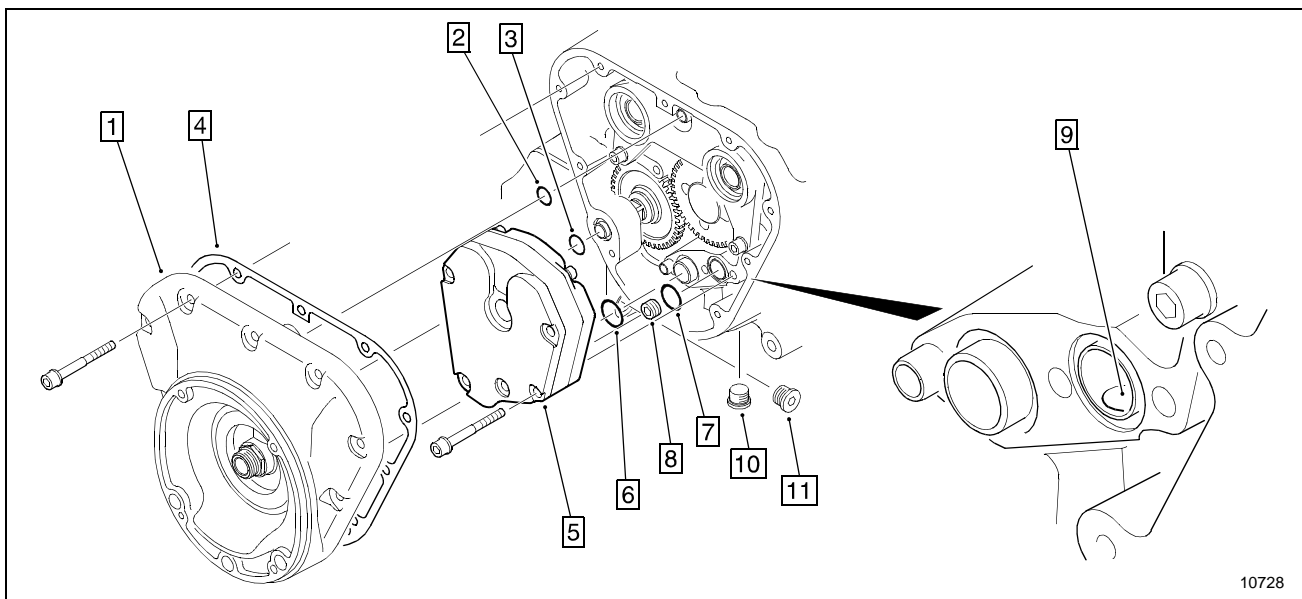

Figure 2
2. Before installing a new oil filter, carefully remove the timing cover (see Figure 2). Remove
3. Remove the scavenge pump (see Figure 2). Remove and discard the input and output port O-rings.
4. Install the pipe plug provided with the kit in the scavenge pump output port as shown (see Figure 2).
Make sure the plug completely clears the output down-port (see Figure 2).
5. Remove the scavenge pump case plug and the pressure pump case plug (see Figure 2). Install the adapter fittings provided.